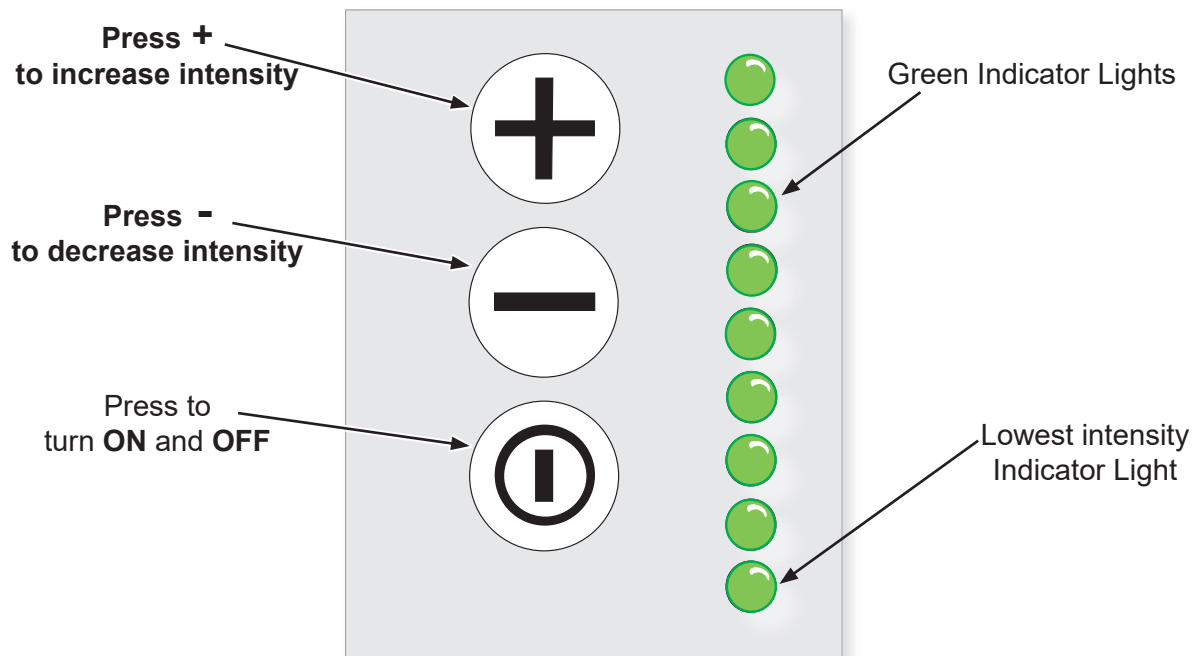

Figure 3-2 Adjusting the Intensity
1. There are 9 levels of brightness which can be selected using the $\oplus$ and $\ominus$ buttons while the power is on. The level of brightness is indicated by the green indicator lights located on the keypad/control panel. An indicator light will light up for each increase in brightness. See Figure 3-2.